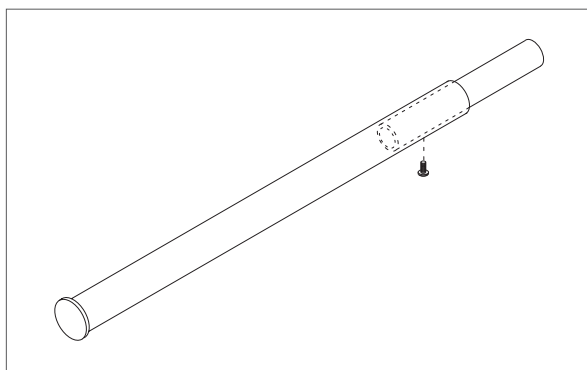

Figure 2
2. Insert the set screw (provided) into the hole in the track segment. Tighten the set screw (Figure 2). Repeat steps 1 and 2 for the other track segment.